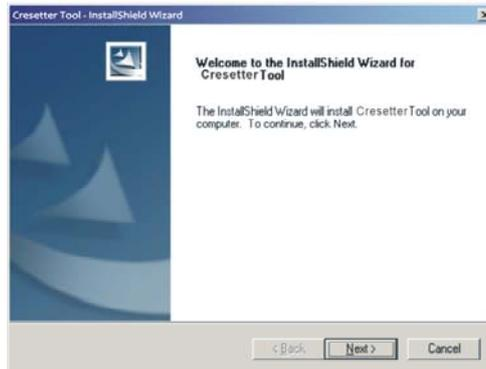

Figure 5-5
1. Double click .exe software, the screen appears as Figure 5-5: